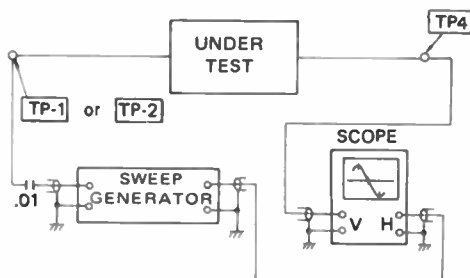

FIGURE 3. IF SECTION ALIGNMENT TEST EQPT. HOOK UP
- Step 1: Connect instruments as shown in Figure 3.